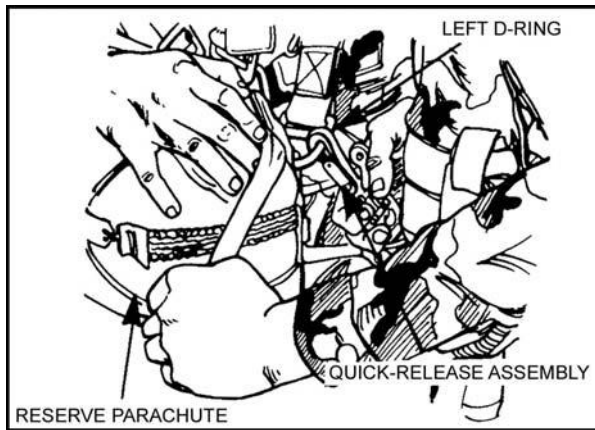

Figure 12-41. DMJP attached.
- a. The DMJP is secured to the parachutist by attaching the quick-release snap to the parachutist's left D-ring as the outermost item (Figure 12-41).